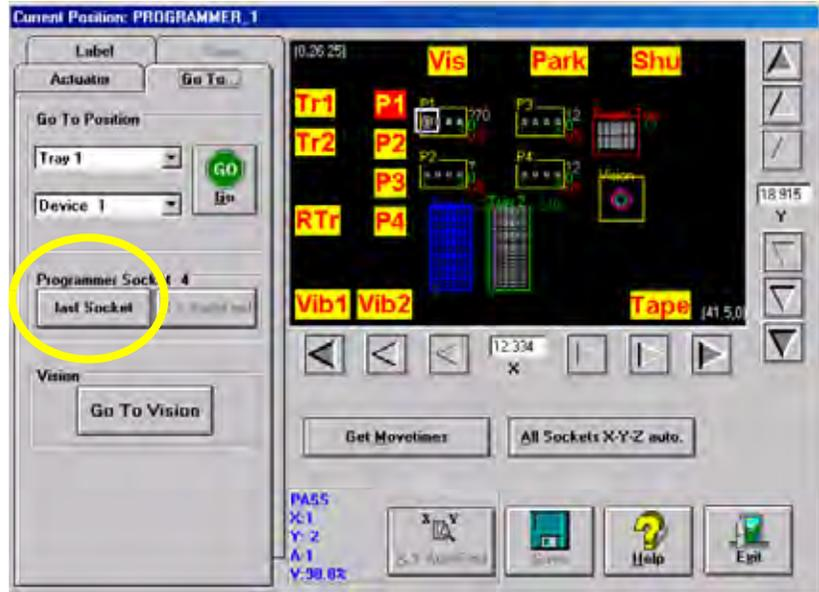

Figure 3-51— last Socket
- 7a) On the **Go To** tab, click **last Socket**. See Figure 3-51.